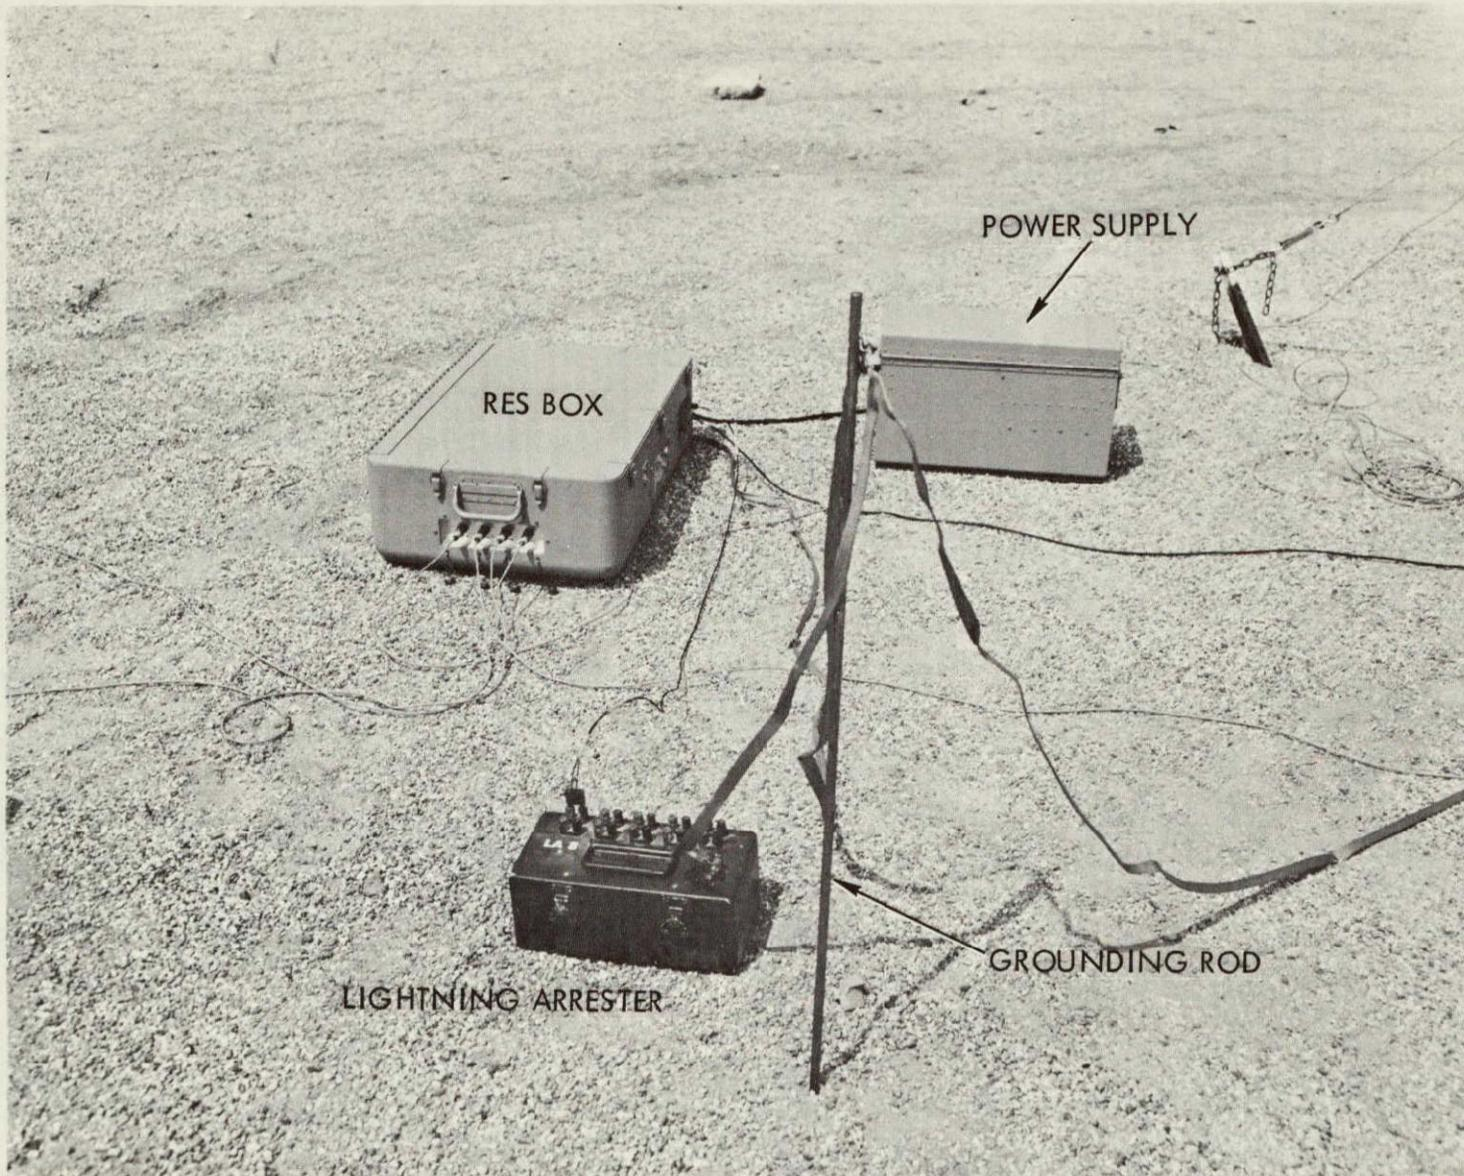

Fig. 16. Arrangement of grounding rod, RES box, power supply and lightning arrester
- 1) Remove the 6-ft grounding rod (Fig. 16) from the antenna tube and drive the grounding rod at least 4 ft into the ground with a post driver or a sledge hammer.